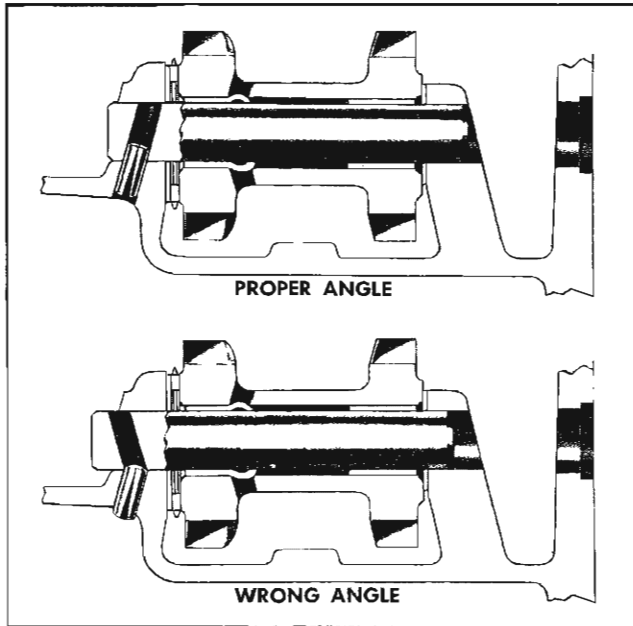

Fig. 7-33 Proper Lock Pin Installation
7. Install reverse idler shaft from rear, making sure lock pin hole in shaft lines up with hole in the case at same angle (Fig. 7-33).